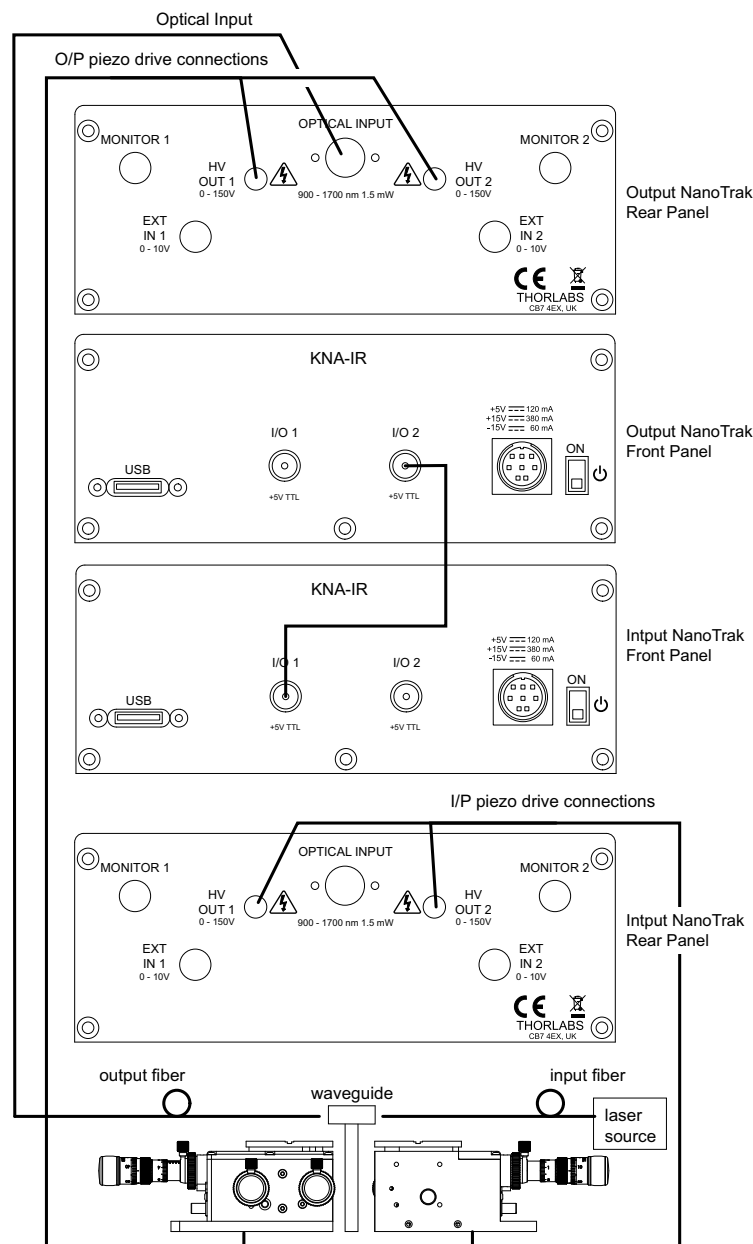

Fig. 5.7 Dual NanoTrak connections
The NanoTrak scanning process uses a single frequency (and a highly selective discriminator similar to a radio receiver). It is possible to use more than one NanoTrak controller in a single optical path (and with a single detector). For example, with two control units set to different scanning frequencies (e.g. 30 Hz and 40 Hz) it is possible to couple fibers both into (master NanoTrak) and out of (slave NanoTrak) an integrated optical device such as a waveguide – see Fig. 5.7. The scan frequency and input source can be set either via the application software (see *API Helpfile*) or directly via the Settings panel – see Section 5.4.1.
- 1) Make connections as shown in Fig. 5.7.